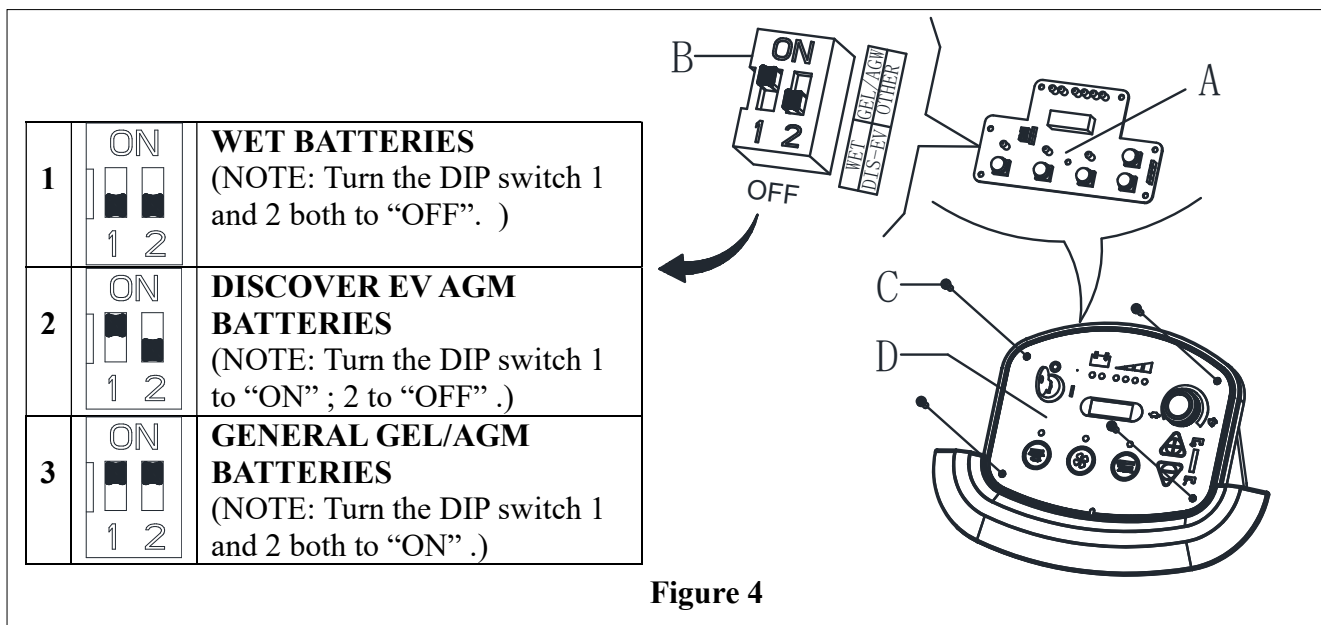

Figure 4
When install new batteries please refer to figure 4 to adjust the DIP switches. Otherwise the batteries may be damaged.
1. Turn the ignition key (35) to “I” and in the very first seconds of machine operation pay attention to the following:
- If the first green warning light (38) is flashing, the machine is set to GEL/AGM.
- If the yellow warning light (37) is flashing, the machine is set to Discover EV AGM.
- If the red warning light (36) is flashing, the machine is set to WET.
3. Remove the screws on control panel (C, Figure 4), then turn over the PCB (A Figure 4) to find the DIP switch (B, Figure 4) for setting battery type (WET or Discover EV AGM or GEL/AGM), (Refer to 1 or 2 or 3).
1. Press both the buttons (A, Figure. 4) and (B) at the same time, Insert the ignition key (D) and turn on the power, after 0.5 second, enter battery setting mode. LED display during setting (C), Release the buttons.
2. The mode can be shift from 0 to 5 by pressing button (B), or shift from 5 to 0 by pressing button (A). After the battery mode setting is completed, turn off the power (D) and the new setting of battery mode can be saved automatically.